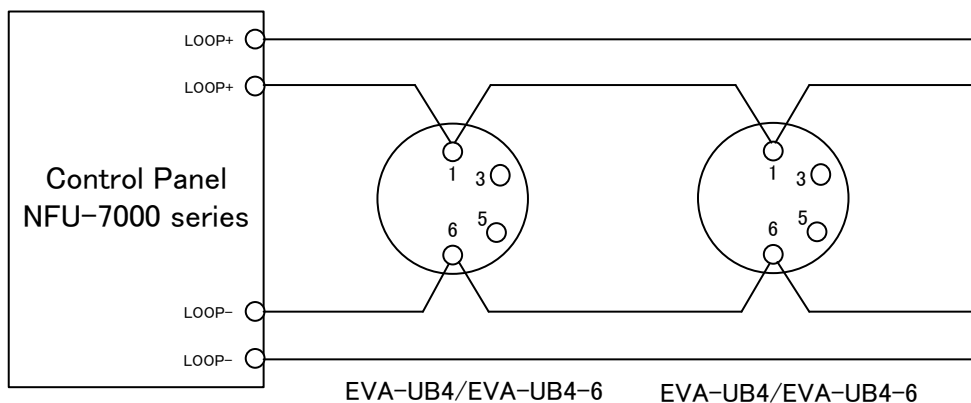
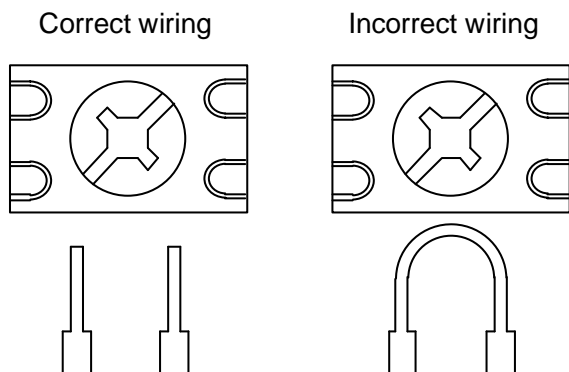

Figure 9: Wiring diagram for EVA-UB4 and EVA-UB4-6
Figure 10: Correct and incorrect wiring method
1. Pass the field wiring through the rear center cable opening in the mounting base. Install the base to the electrical box with screws via the base mounting holes. Connect the field wiring to the base terminals, as detailed in Figure 9,. Do not use looped wire under terminals (See Figure 10).